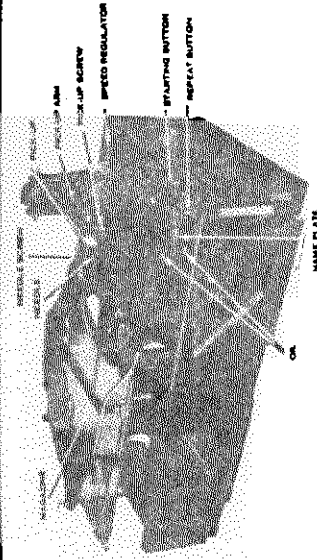

FIGURE 5
In case it is desired to play the same record over, the repeat Button figure 5 is moved to the left. This moves Repeat Lever 806 figure 2 causing it to press against Drive Dog 822 causing the Dog to recede and not catch on Eject Drive Arm 790. Eject Drive Arm 790 remains stationary and the Eject Slide does not move. The Cam revolves and the Turntable goes through all of the elevating positions except the discard elevation. Eject Arm 790 does not allow Roller 845 to drop to the discard elevation in Cam 789 figure 1, thus the record will be repeated until the Repeat Lever is moved to the right.
In starting or rejecting records, the Starting Button figure 5 is pressed. When this Button is pressed slightly, it causes the contacts in switch 897-A figure 2 to be spread apart which changes the fields in the motor from a series connection to a parallel connection for a greater starting torque. Pressing down further causes Lever 662 figure 2 to act against Throwout Lever Trip 814 and trip mechanism which discards the record. This is the same action as though it were tripped with the Dogs 813 or 814.
upper side of the motor board figure 5 are two (2) pipe plugs marked "OIL." Remove these plugs and inject a quantity of oil in the tubes under them. This lubricates both armature shaft bearings. The wick type oil wells used on the bearings keep the bearings well lubricated for a six (6) months period of normal operation.